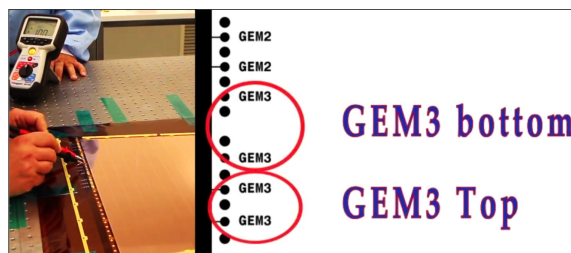

Figure 76: Testing GEM3.
Step 27: Before covering the large base, test the last foil by applying 550 V on the pads shown on Fig. 76.